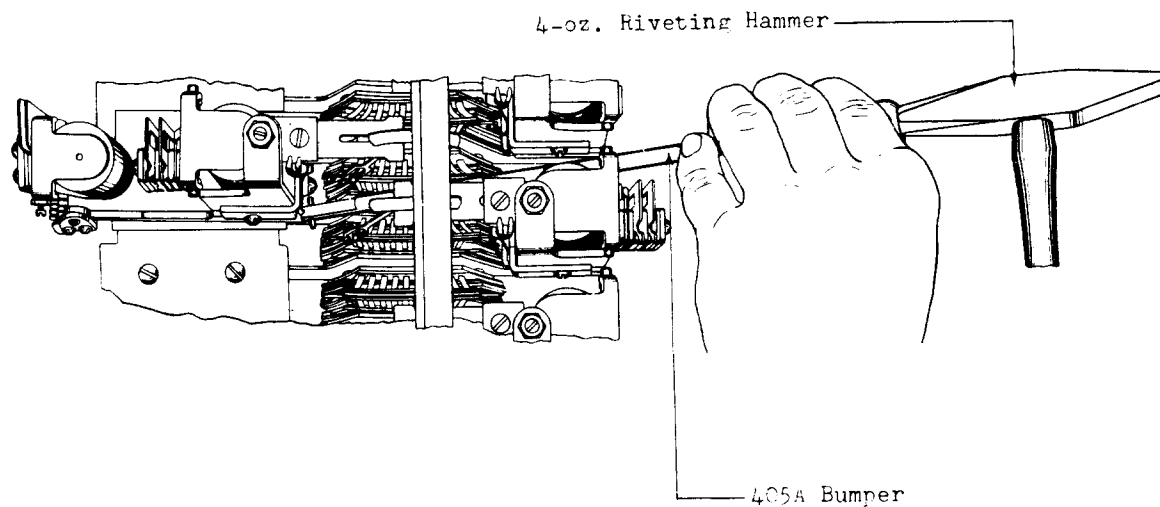

Fig. 17 — Adjusting for Clearance Between Plunger Tip and Bank Comb Stop
- (1) If there is a perceptible change in the depth of engagement of the plunger guide shaft and plunger fantail slot as the master switch oscillates, it is an indication that the plunger bearing pin and the plunger guide shaft are not concentrically aligned. This may be due to the switch being too far to the left or right with respect to the guide shaft.
- (2) To correct this condition, loosen the switch mounting screws slightly with the KS-2631 screwdriver, place the No. 405A bumper against the switch frame and tap it lightly away from the position of greatest engagement with the 4-ounce riveting hammer. (See Fig. 17.) After making this adjustment, check requirements 2.08, 2.09, 2.10, 2.11, 2.12, and 2.16.
(2) If the plunger bearing pins of adjacent switches touch each other and the bearing pins are long, clip off a portion with the diagonal pliers and then flatten the remaining part with the long-nose pliers. If the bearing pins touch and they are short, the switch probably does not line up properly with the shelf. In this case, proceed as covered in (1).
(3) If there is no clearance between the plunger tip and the bank comb stop when the plunger fantail slot is engaged with the plunger guide shaft on the first or tenth trunks, loosen the switch mounting screws with the KS-2631 screwdriver and then tap the switch to the right or left as necessary with the 4-ounce riveting hammer and the No. 405A bumper as shown in Fig. 17. Recheck requirement 2.06.